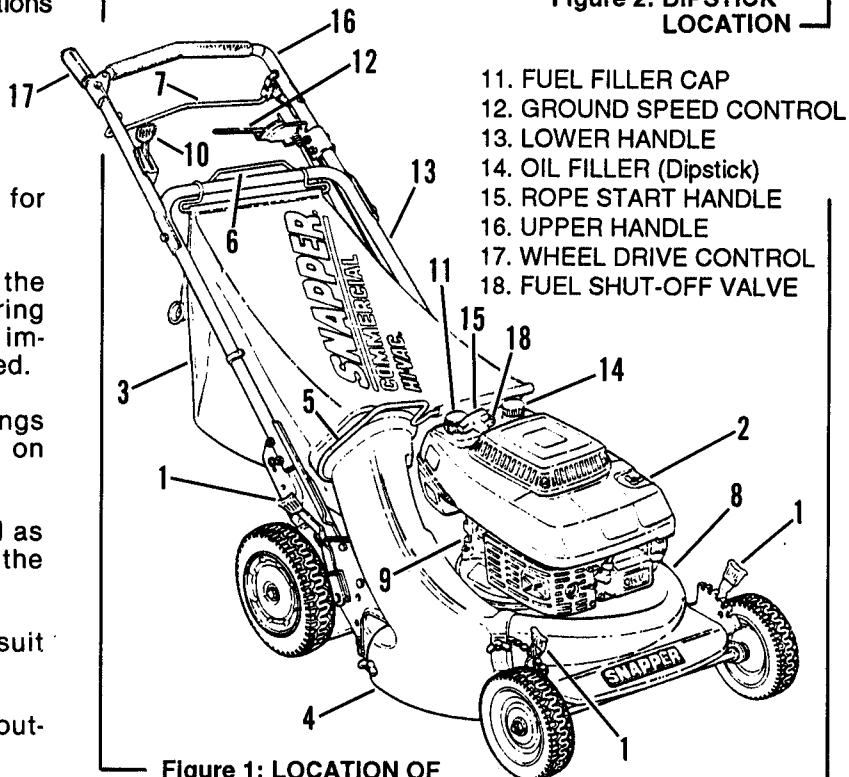

Figure 1: LOCATION OF CONTROLS/FEATURES
The engine (and blade) is stopped by releasing the **BLADE CONTROL**. On self-propelled models, releasing the **WHEEL DRIVE control** (17) stops the forward movement of the mower. Refer to Figure 1 for locations of controls.
•**CHECK** guards, BAG (3), BAG ADAPTOR (4) for proper position and tightness.
•**CHECK** oil level in 4-cycle engines and add oil as needed to bring the level up to but not over the dipstick (14) "FULL" mark. Refer to FIG. 1 & 2.
1. Move **ENGINE CONTROL** lever to **CHOKE** position. Refer to FIG. 1.